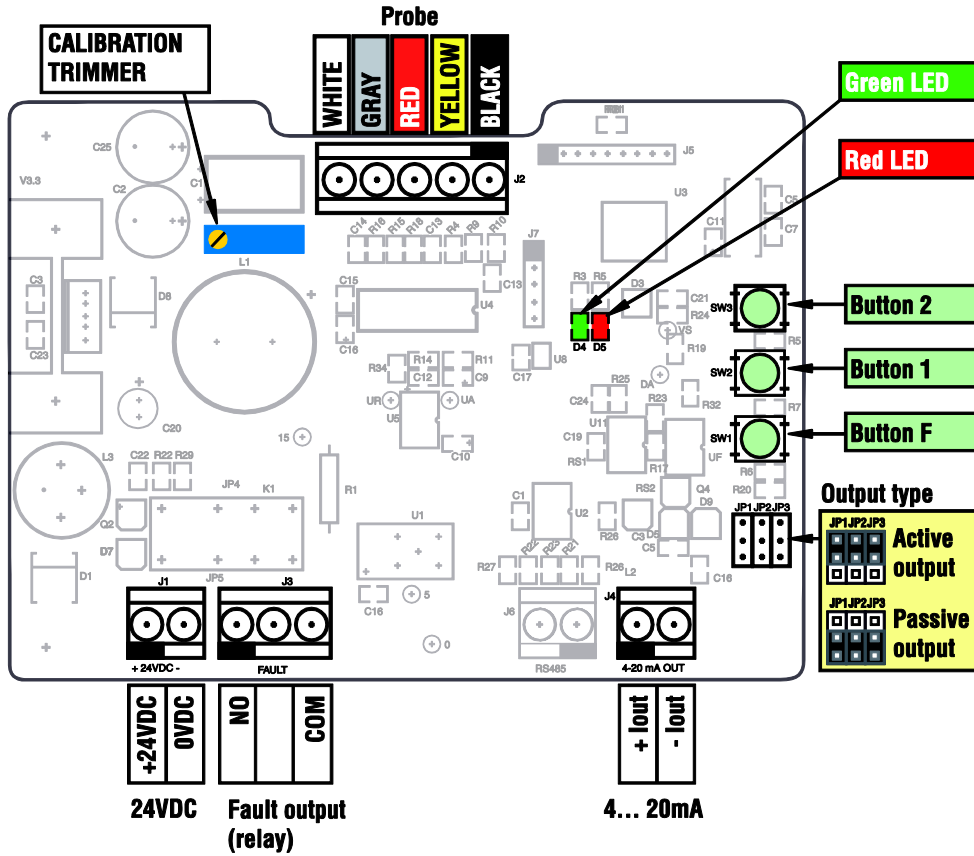

Figure 4
The electronic of probe ZO2-3I/E appears as in figure 4 below.
- Correct the output value operating on the calibration trimmer (see fig. 4, pag 8) up to full scale set 20.9 %O2 or 25 %O2 (see Cap. 5.2)